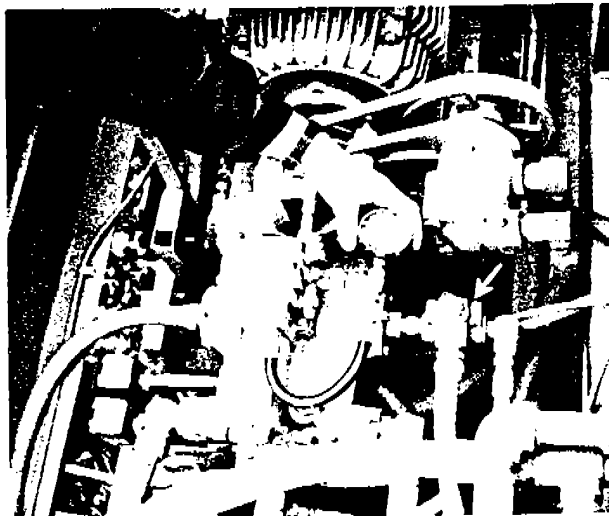

Figure 8
6. *Low charge pump pressure.* Install a 0-500 PSI gauge in the orifice port and take a reading. If the pressure is not 150 - 175 PSI, adjust the charge pump relief valve to this range. (Fig. 8)